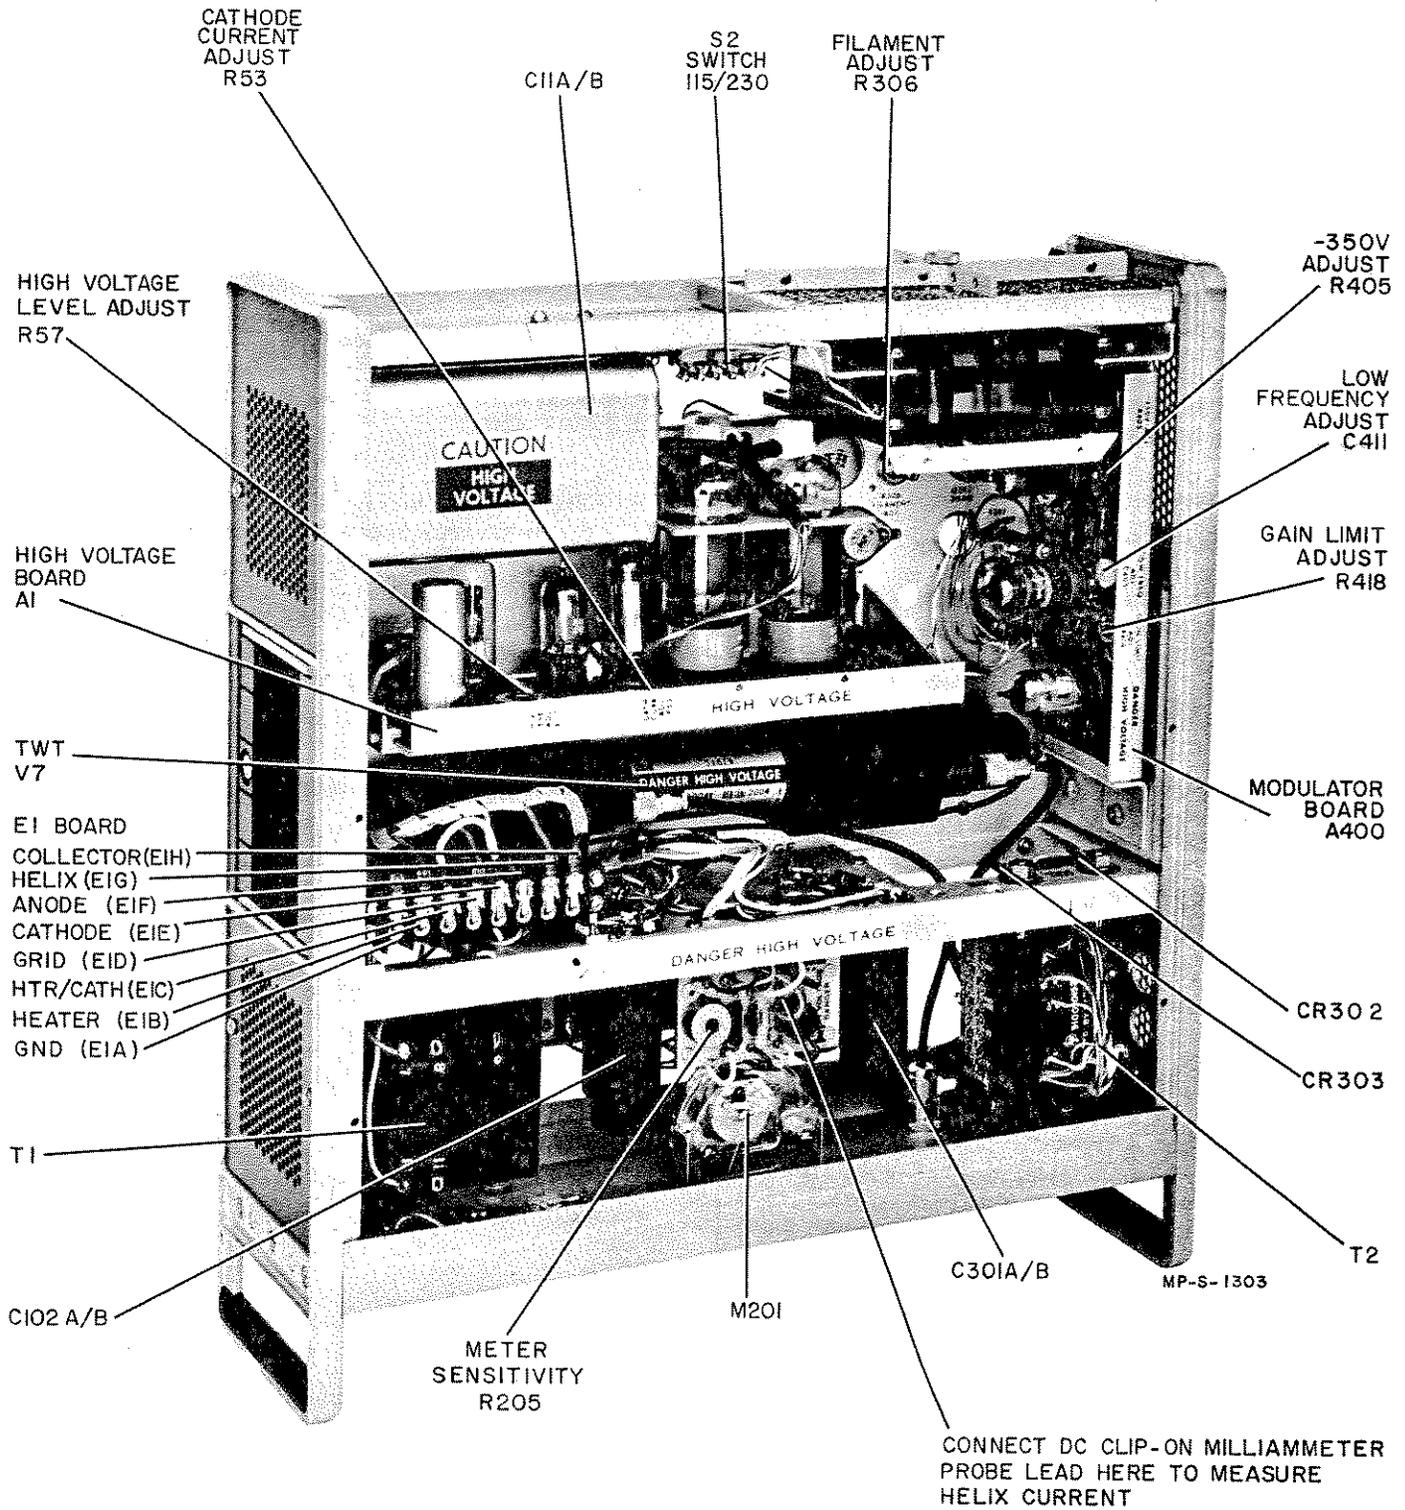

Figure 5-3. Model 493A Top View
- g. Remove E1 mounting screw nearest ground terminal (E1A, Figure 5-3), and swing E1 assembly aside.
- f. Connect jumper wire between E1C (grey filament lead) and E1E (white cathode lead) on the E1 board. All replacement tubes require the jumper between E1C and E1E. Connect the TWT lead to terminal board E1 as shown in table 5-2 and figure 5-3.
- b. Rotate filament adjust R306, (figure 5-3) full counterclockwise.
- c. Connect dc voltmeter between E1B and E1C (see figure 5-3). DC voltmeter to 10-volt range.
- a. Parallel an ac and dc voltmeter; connect between helix terminal (E1G) and ground (figure 5-3).
- c. With the high voltage adj. R57, (figure 5-3) set the collector/helix voltage to the value stamped on the TWT capsule.
- a. Parallel an ac and dc voltmeter; connect between anode terminal (E1F) and ground (figure 5-3).
- b. With the cathode current adjust R53 (figure 5-3), set anode voltage to value listed in TWT data sheet.
b. With the -350 volt adj. R405 (figure 5-3), set -350 volt regulated power supply to -350 volts.
a. Parallel an ac and a dc voltmeter; connect between grid terminal E1D and E1E (figure 5-3).
e. Connect a dc clip-on milliammeter to the orange or yellow lead located on the board directly behind the current meter (see figure 5-3).
- d. Adjust high frequency adj. R411 (see figure 5-3), for optimum square-wave output. Rise time should be less than 0.8 μ sec, overshoot less than 5%.